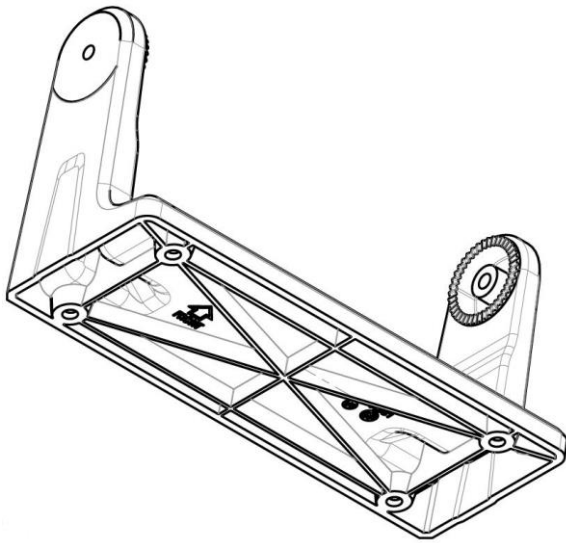
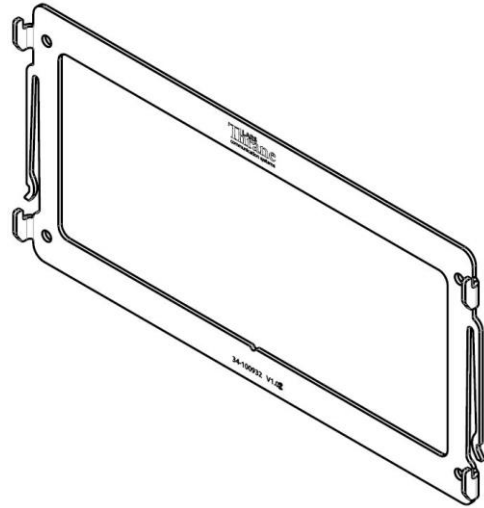

Figure 4: Bracket Mount, Control Unit.
Figure 5: Flush Mount, Control Unit.
**NOTE:** The LT-3110S Control Unit must be mounted with either the Bracket Mount, Control Unit (P/N: 91-100771) or Flush Mount, Control Unit (P/N: 91-100772) - illustrated in Figure 4 and Figure 5. The Flush Mount, Control Unit is not included in the LT-3100S GMDSS Satellite Communications System – Basic (P/N: 90-102071) and must be ordered separately.
The Bracket Mount and Flush Mount for the LT-3110S Control Unit are illustrated in Figure 4 and Figure 5.